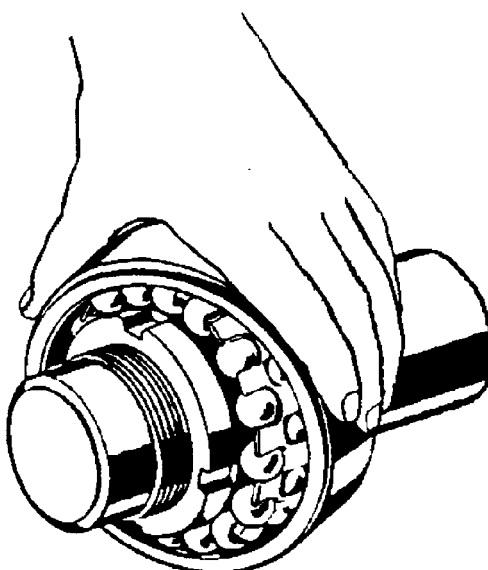

Figure 43 - Checking the internal clearance on a self-aligning ball bearing *only for bearings with normal clearance*. (Courtesy SKF Canada Limited)
- There is a commonly used rule of thumb that "the correct clearance is indicated by a slight drag when the outer ring is swivelled" (as shown in Figure 43). This check on clearance will work for bearings with **normal** initial clearance **only**. Self-aligning ball bearings are commonly used in the pillow blocks on fans that move hot gases. Since they tend to run at higher temperatures than normal, they are often specified with a C3 clearance (i.e., greater than normal). If they are tightened until there is a slight drag, the inner ring will be overstressed and may crack. The running clearance will also be lost when the bearing is at operating temperature.